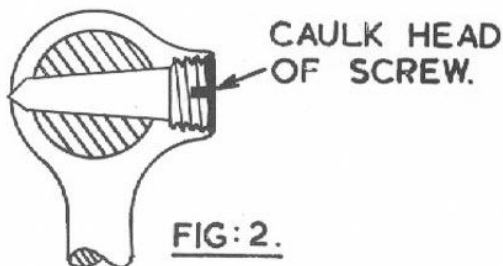

FIG: 2.
3. Assemble spindle and pawl into governor housing and fit tapered setscrew, caulk the head of the screw, fig.2 to prevent it working loose.